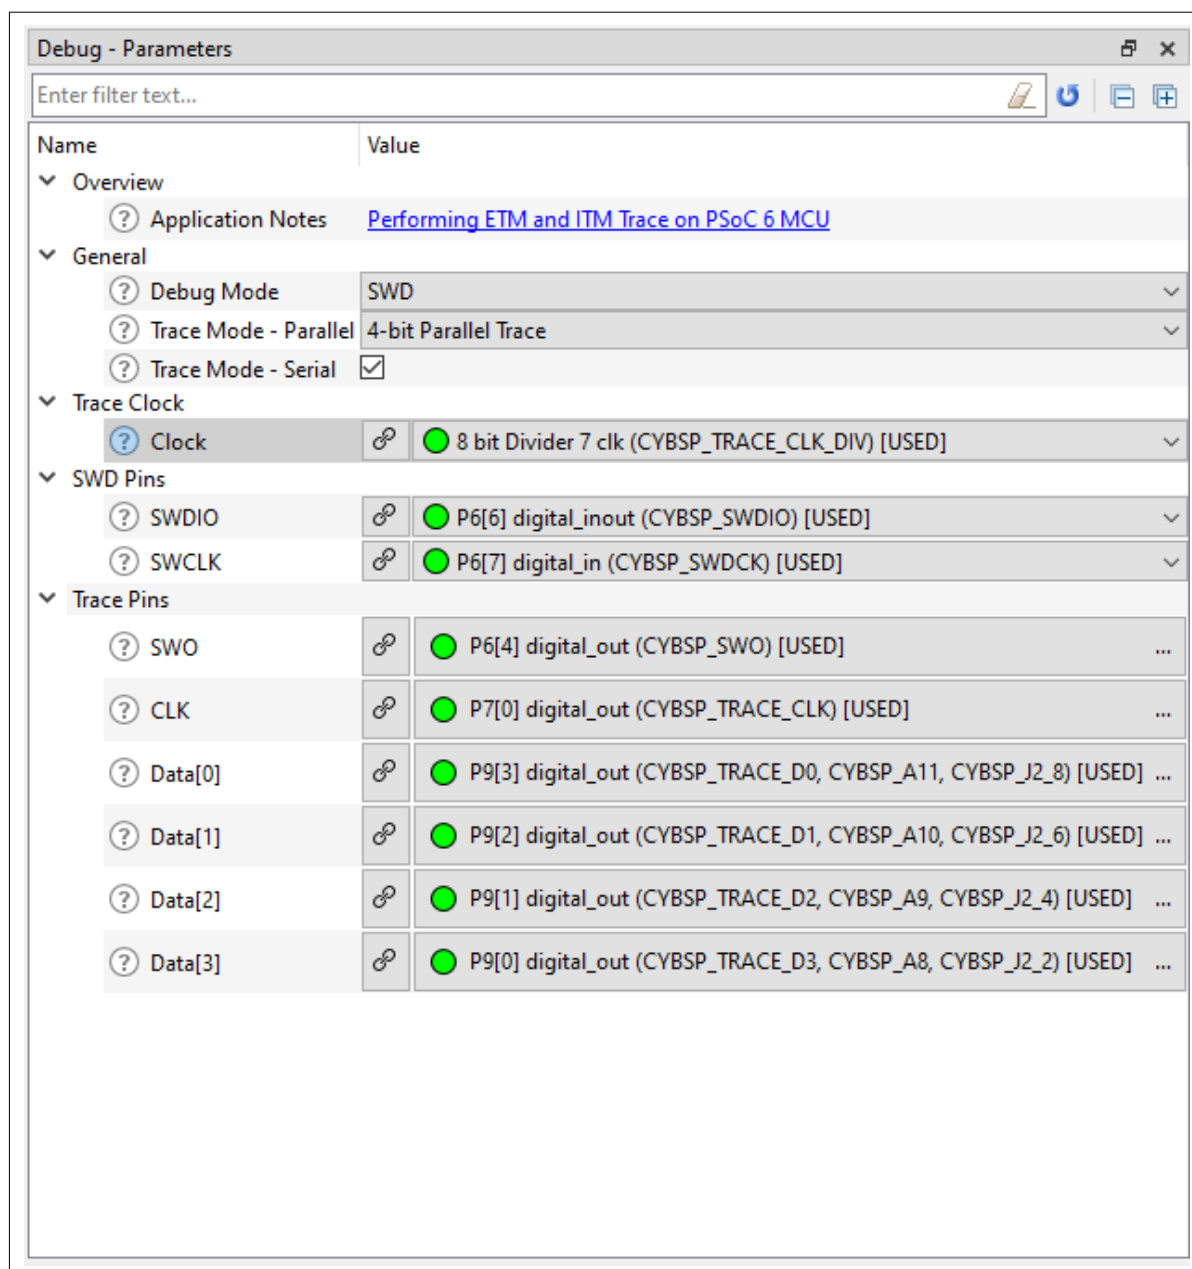

Figure 9 CY8CEVAL-062S2 kit trace pin schematics
6. Edit the debug parameters as shown in Figure 9 to reserve resources for performing trace. This step is required only to reserve the resources, so that they are not accidentally assigned to some other peripheral by the HAL hardware manager. Note that the configuration of the same resources is actually done by the third-party debugger scripts.